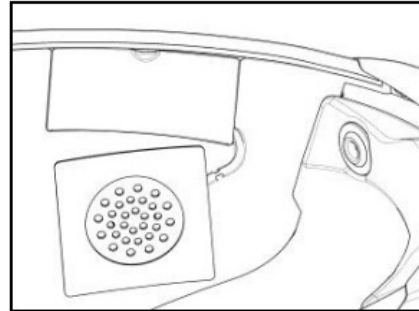

Fig. 13
- Position the left loudspeaker in its seat, inserting the cable in the special groove. If necessary, secure the earphone using the adhesive supplied as standard equipment (Fig. 13).